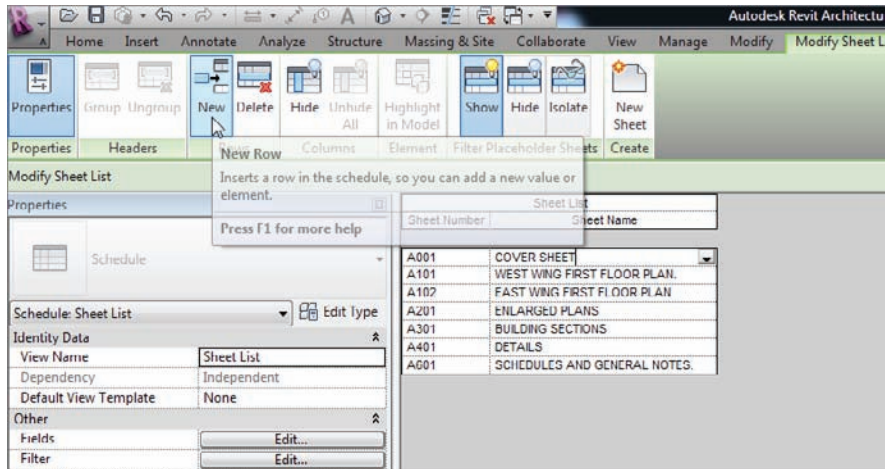

FIGURE 14.25 You can add a placeholder row.
2. On the Rows panel, click the New button, as shown in Figure 14.25.
3. Call the new row COVER SHEET A001 (see Figure 14.25).